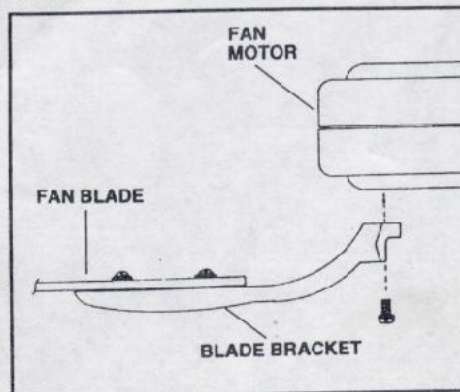

FIG. 15
Step 2. Align holes in blade bracket and motor and secure with proper screws. Repeat process with the other blade brackets. (Fig. 15)